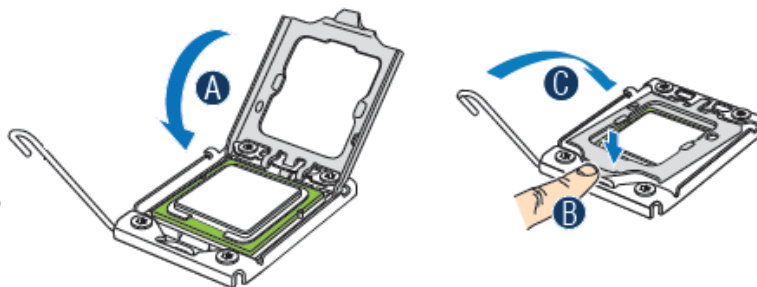

Figure 13. Close the Load Plate and Socket Lever
- Close the load plate (see the letter “A” in Figure 13), close the socket lever and ensure the load plate tab engages under the socket lever when fully closed. (See letter “B” and “C” in Figure 13)